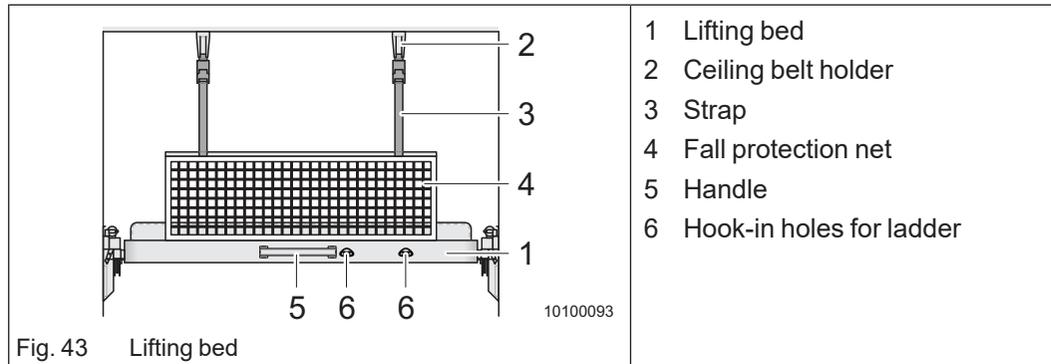

Fig. 43 Lifting bed
- Using both hands, pull the lifting bed (Fig. 43/1) all the way down by the handle (Fig. 43/5).
- Hang the ladder into the hook-in holes (Fig. 43/6).
- Attach the fall protection net (Fig. 43/4) on the bed using the retaining straps (Fig. 43/3) and the buckle latches (Fig. 43/2) in the vehicle roof.
- Unfasten the fall protection net (Fig. 43/4) from the ceiling.
- Move the lifting bed upwards by its handle (Fig. 43/5), raise the rear part of the bed and push the lifting bed upwards to the stop.
- Secure the lifting bed to the ceiling with the retaining strap (Fig. 43/3).